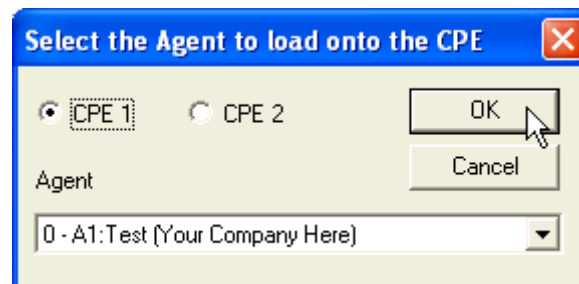

Figure 16: Loading an Agent onto the CPE
3. From the dialog (Figure 16), double-click the Agent to load onto the CPE.